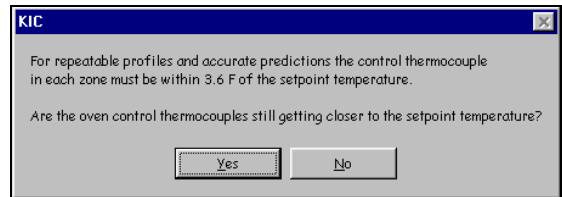

Figure 98
- **No** – The software will ask if the oven is getting closer to the set points. See Figure 98.